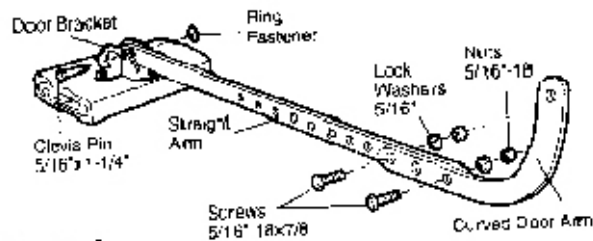

Figure 4
- Slide a carriage bolt head into the slot on each sensor. Use wing nuts to fasten sensors to brackets, with lenses pointing toward each other across the door. Be sure the lens is not obstructed by a bracket extension. See fig. 4.
1. Assemble the door arm, fig. 4: